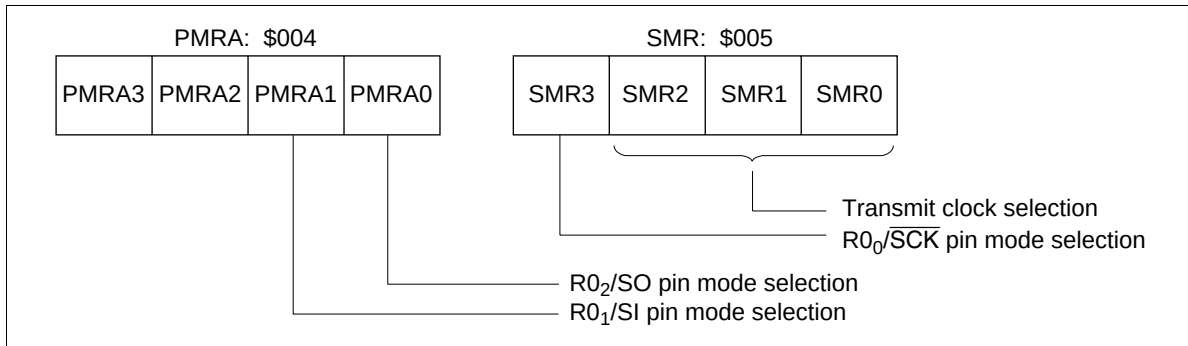

**Figure 32 Configurations and Functions of the Mode Registers**
**Serial Mode Register (SMR: \$005):** The 4-bit write-only serial mode register controls the  $R0_0/\overline{SCK}$ , prescaler divide ratio, and transmit clock source (table 26, figure 32).